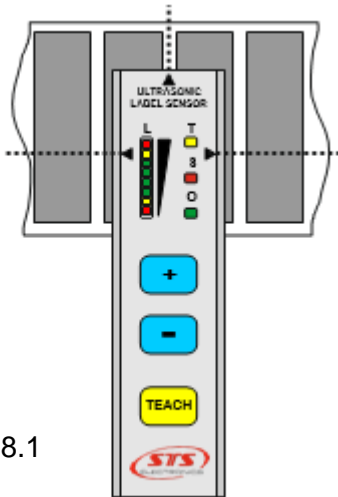

Figure 8.1
1. Position the stock so that the gap is under the sensor, as shown in figure 8.1